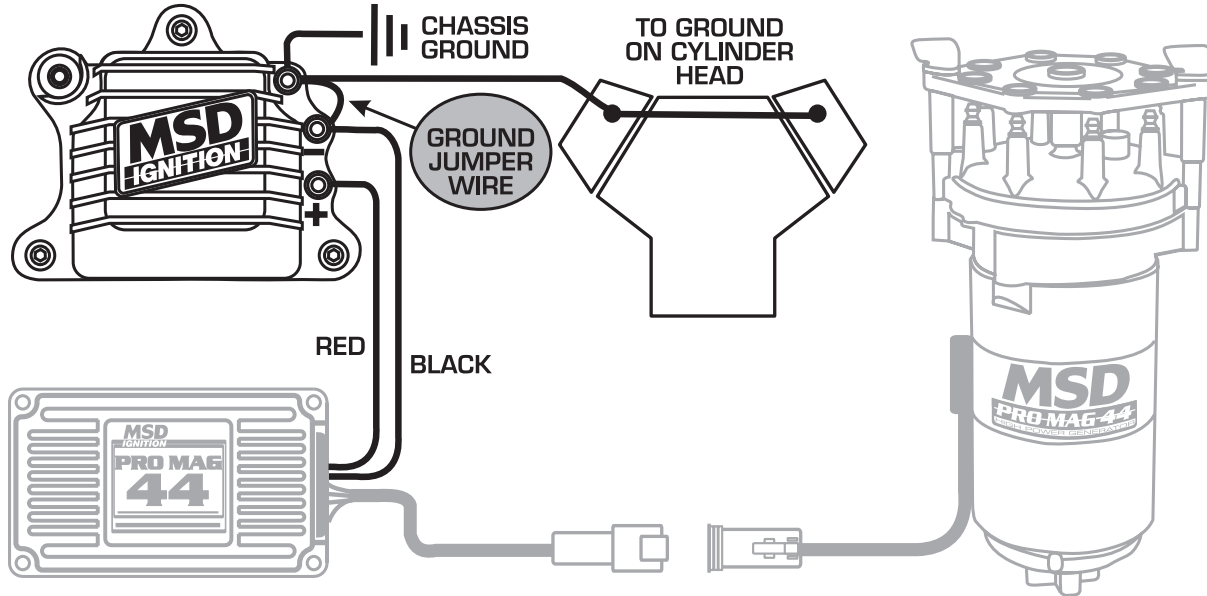

Figure 1 Wiring the Pro Mag 44 Coil.
It is necessary to connect additional ground wires from the remaining coil terminal to ground on the engine cylinder heads, another to the chassis and a loop to the coil negative (-) terminal (Figure 1). Twelve or 14 gauge wire must be used. These wires ensure a good ground path.
4. Two ground wires must be connected to the remaining terminal of the coil. One must be connected to the chassis ground and another to the cylinder heads (Figure 1).